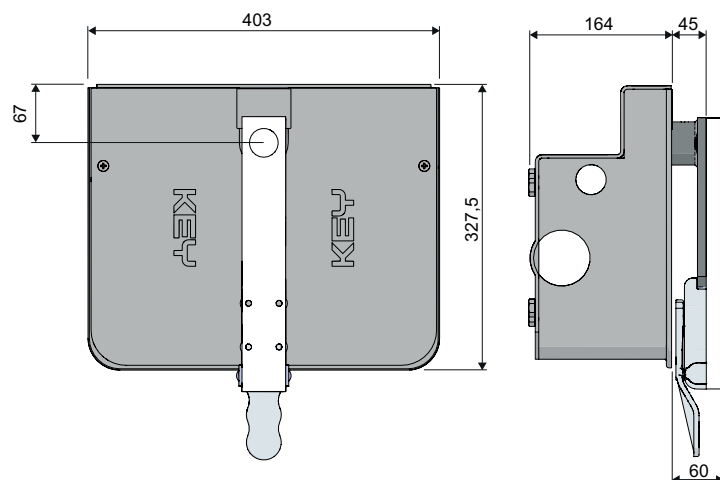

Fig. 2
- The weight and size of the gate or door must be within the maximum permissible operating limits specified in Fig. 2
Check the allowed use limitation in the diagram in Fig.2